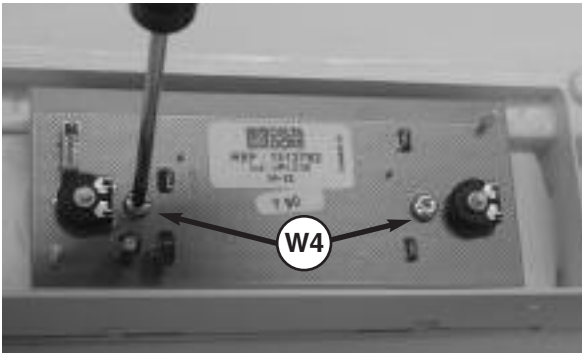

Fig. 103
6. To remove the display PCB, remove the two screw **W4** and lift the PCB out (see *Fig. 103*);